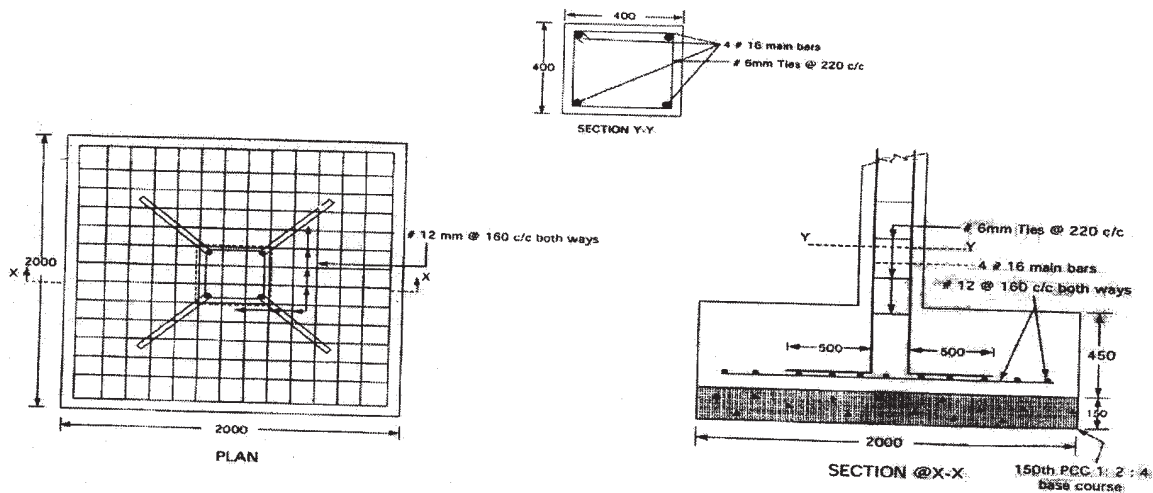

Fig. 2
4. The plan and section of isolated square footing for a column is shown in Fig. 2. Specify the reinforcement details for the following :